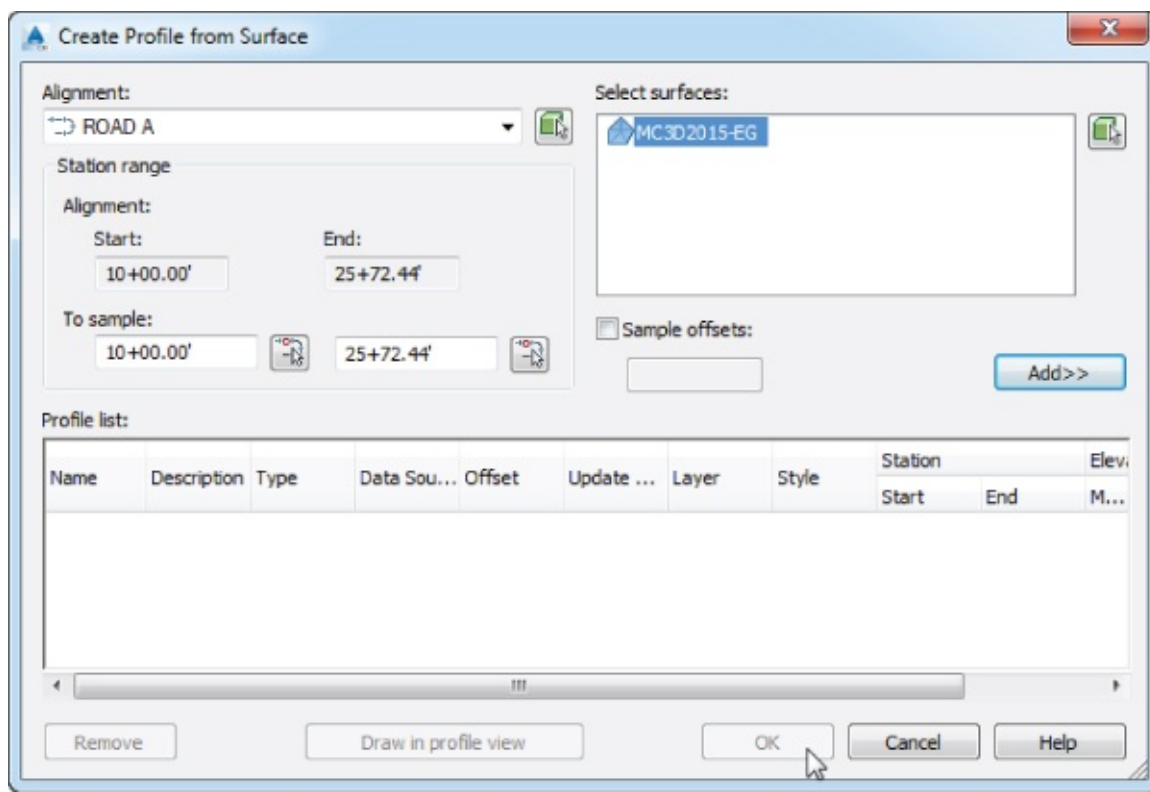

Figure 7.3 The Create Profile From Surface dialog
2. From the Home tab > Create Design panel, choose Profile > Create Surface Profile to display the Create Profile From Surface dialog (Figure 7.3).